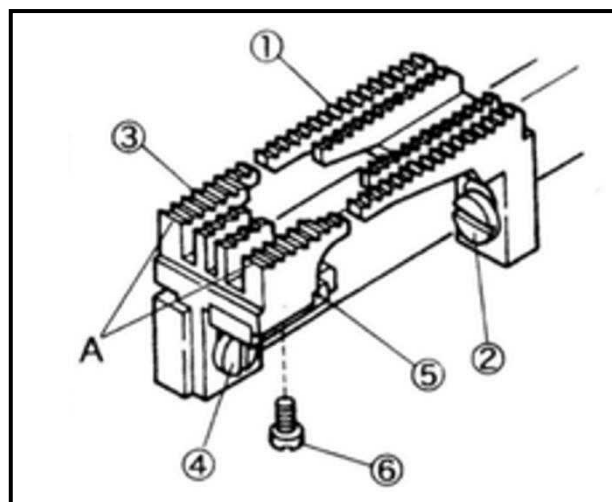

Fig.59
固定差动牙齿和主送牙齿③用螺钉②和④固定后，护针⑤在主送齿上调整时，松开螺钉⑥。(Fig.59)
Fix the needle guard(rear)⑤ on the main feed dog and tighten it at the most rear position with the screw⑥ slightly. (Fig.59)